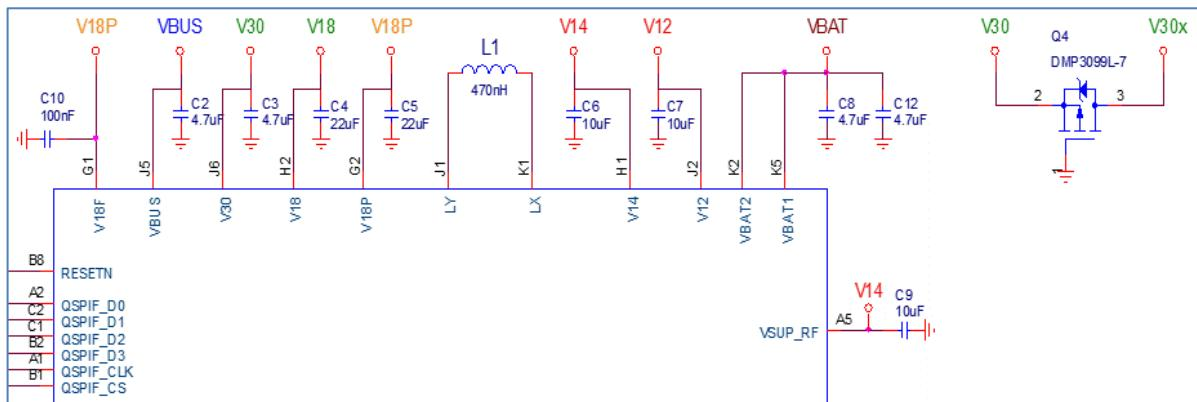

Figure 6: Power Section of DA1469x SoC
The DA1469x SoC contains internally all power management for proper and safe system operation. Figure 6 shows the required external components, like the decoupling capacitors and the power inductor.
VBAT2: This is the input supply pin for the SIMO DCDC buck converter. VBAT2 must be connected externally to **VBAT1** (Figure 6). A 4.7 μ F/10 V decoupling capacitor (C12) is required to be placed near the VBAT2 pin (0402 package).
- As a solution, a P-Ch MOSFET (Q4) having a gate-source threshold voltage of about -2 V to -1.5 V may be added in series with the V30 rail to power the external loads. This prevents the V30 rail voltage will drop below 1.5 V. See Figure 6
With the LDO_VBAT being bypassed, this V30 LDO is not loaded anymore. As such the external P-Ch MOSFET to protect the LDO_VBAT against large overload currents is not required anymore. Q4 shown in Figure 6 can be omitted. This V30 to VBAT connection method is strongly advised for VBAT supply voltages lower than 2.4 V, down to 1.9 V which is the minimum allowed supply voltage for the V30 rail. For VBAT voltages higher than 3.3 V, this connection method does not have an advantage anymore, and it is advised to connect the DA1469x SoC in the standard way as shown in Figure 6. The VBAT BOD (BOD_VBAT_EN) may be disabled, since the system still is protected by the BOD on the V30 rail which has the same voltage as the VBAT supply. The VBAT BOD must be disabled when the VBAT supply voltage is equal to or lower than 2.4 V, or when it can be expected that the VBAT voltage could drop below 2.4 V. If the V30 rail voltage can become lower than 2.0 V, the level value of the V30 BOD (BOD_LVL_V30) must be adapted to comply with the lower V30 rail voltage.